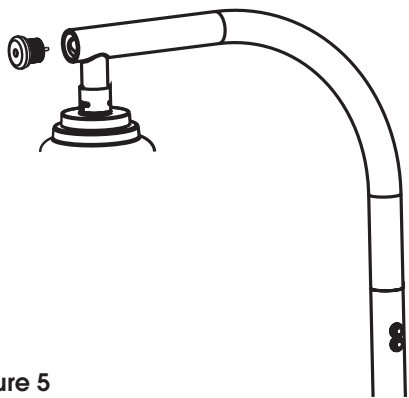

Figure 5
- 5 Remove the end cap from the parts bag and secure to the bracket end using an Allen head tool (Figures 5 and 6).